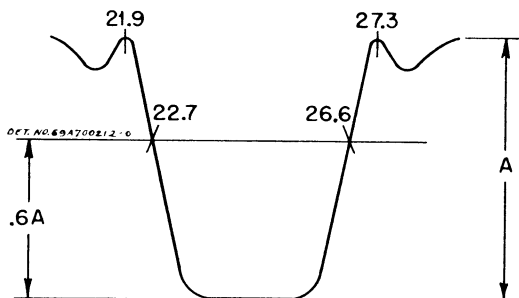

FIGURE 6. IF RESPONSE CURVE
4. Using R-26 (100K) as a decoupling resistor, connect the scope to pin 4 of test socket and chassis. If a stronger output is required, connect the scope between the picture tube cathode and chassis. The curve seen at this position will be the reverse of the polarity shown in Figure 6.
8. Adjust the 1st IF coil, L-11, to place a 26.6 mc marker on the high side of the response curve 60% down from maximum response. See Figure 6.